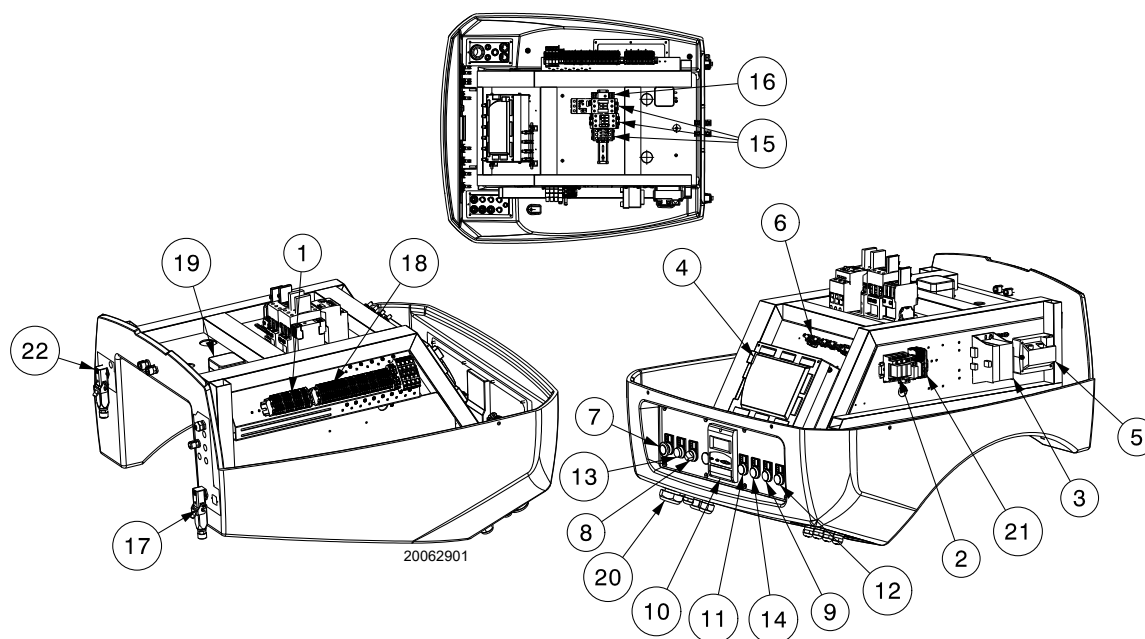

Fig. 5
- **Control box lockout:** if the pushbutton 13)(Fig. 5) (red led) lights up, it indicates that the burner is in lockout. release by pressing the pushbutton 13)(Fig. 5).